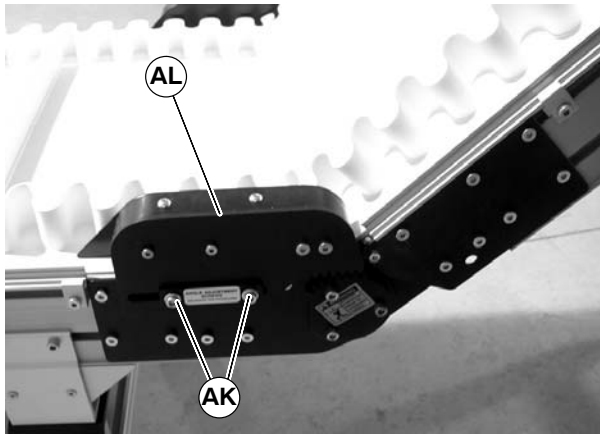
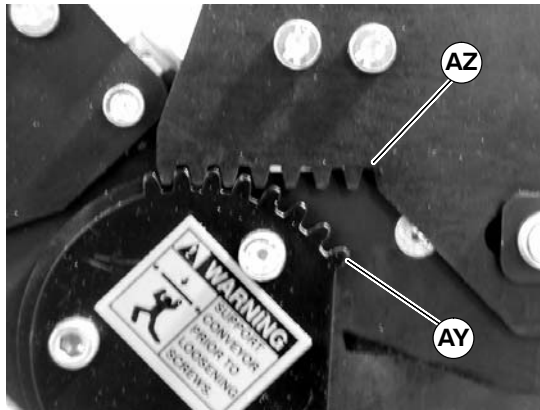

Figure 35
Figure 36
7. If equipped, install lower knuckle return roller assembly (AL of Figure 35). To properly align teeth, ensure the first gear of the pinion plate (AY of Figure 36) matches with the first pocket of the rack plate
(AZ). Secure with screws (AK of Figure 35) on both sides of the conveyor.